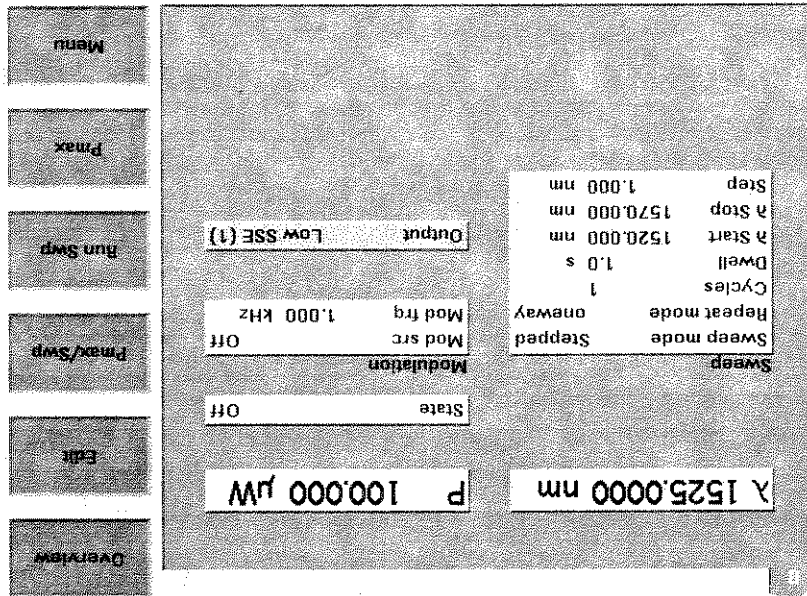

Figure 62 Setting Low SSE parameter
- <Low SSE (1)>, a lower power optical output with low Source Spontaneous Emission (SSE), for example, for use in passive component test, you see a screen similar to Figure 62,
screen in Figure 62.